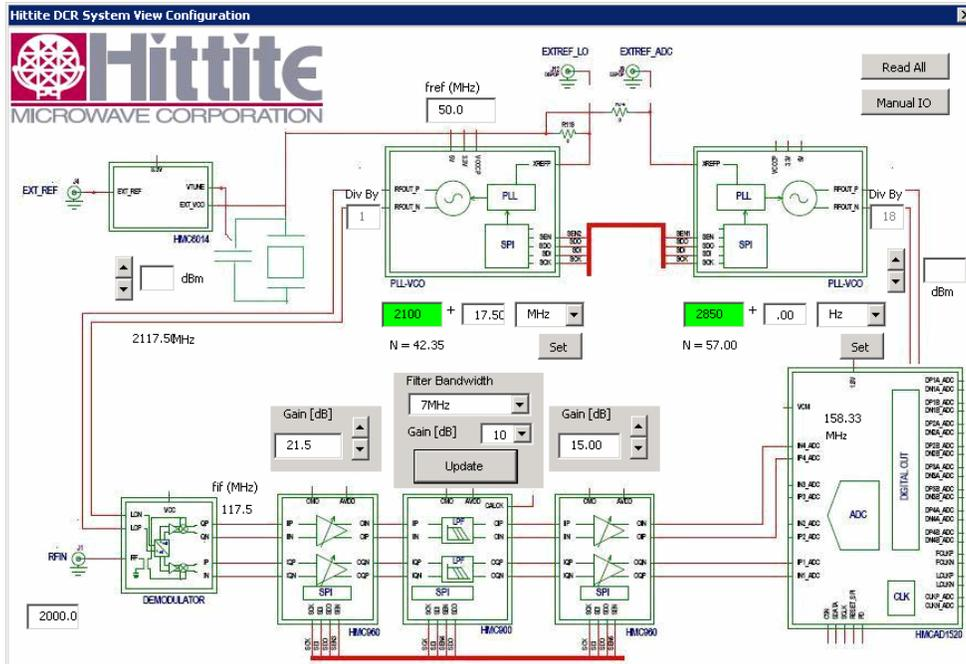
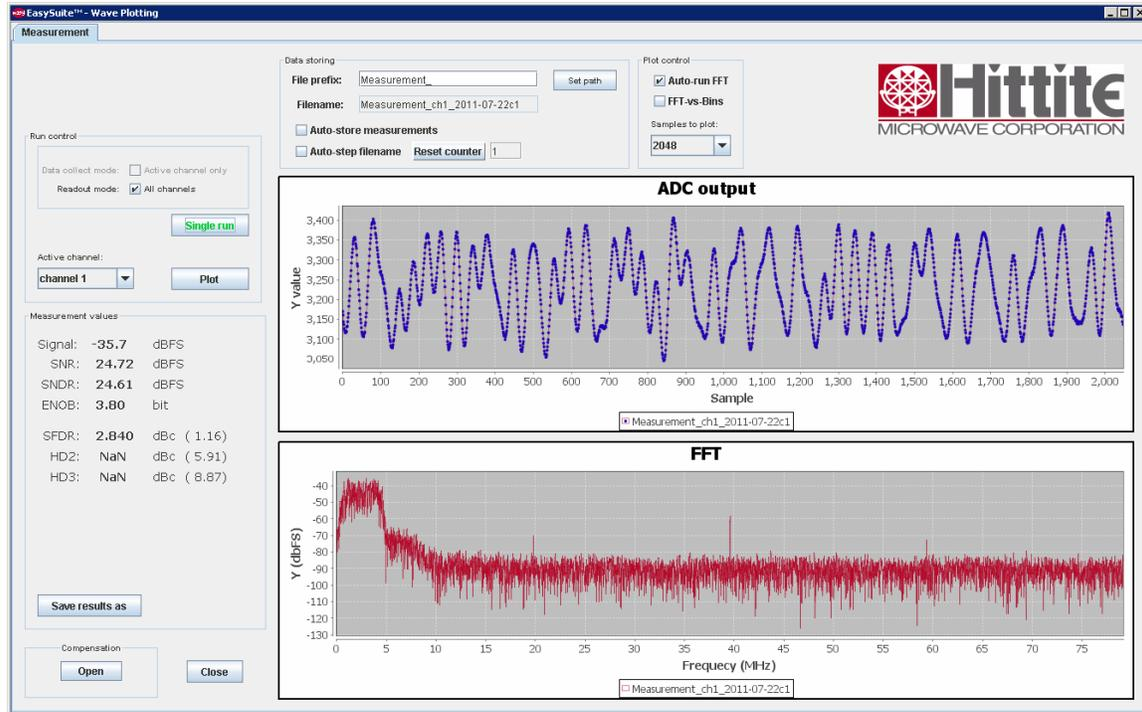

Figure 36. System View dialog showing filter bandwidth set to 7 MHz
Figure 37. System View dialog showing the effect of increasing the filter bandwidth to 7 MHz
23. Effect of maintaining identical settings, but increasing filter bandwidth by 2.5 MHz to 7 MHz is shown in Figure 36 and Figure 37. Figure 37 shows unchanged signal spectrum and amplification of noise at frequencies less than 7 MHz (programmed low pass filter bandwidth).